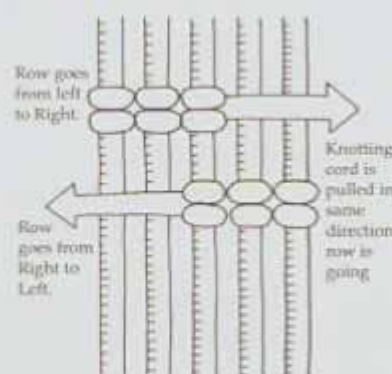
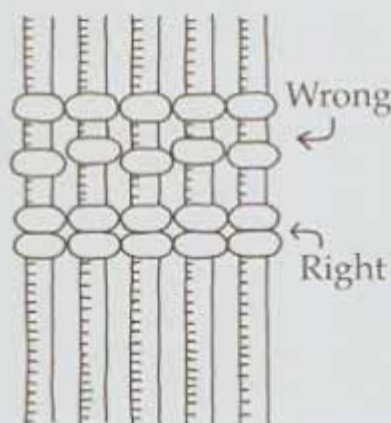

Fig. 13
Fig. 14
•**Tips for making Vertical Double Half Hitches** - When tightening each of the two loops of a **VDHH** remember to pull the **KC** in the same direction that the row is going (see Figure 13). In other words, if your row starts on the left and you are knotting towards the right, you will bring the **KC** back out to the right after looping it around the **AC**. Continue to pull the **KC** out to the right and tighten. By the same token, if your row starts on the right and you are knotting towards the left, you will bring the **KC** back out to the left after looping it around the **AC**. Continue to pull the **KC** out to the left and tighten. The vertical **AC** should always be held taut as you simultaneously tighten the **KC**. If the **AC** is not held taut you will run into problems. Also, **VDHHs** have a tendency to separate in the middle and elongate. You may notice a space in the middle of your **VDHHs** where you can see the vertical **AC** showing through (see Figure 14). Use your thumbnail to push the bottom part of the knot upward so that the knots look neat and pulled together.